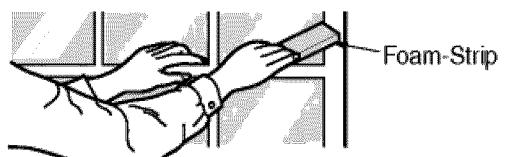

Fig. 8
8. Cut the Foam-strip to the proper length and insert between the upper window sash and the lower window sash.(See Fig. 8)